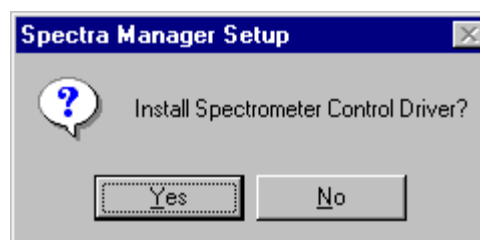

Figure 10.10 Message prompt for installing Spectrophotometer control driver
- (1) Input the drive and name of the target [Spectra Manager] data directory. The following directory name should be used:
- (2) Click the <Next> button. The message prompt shown in Fig. 10.10 appears.